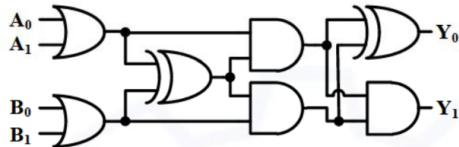

Fig. 4.19
37. In the circuit shown below in Fig. 4.19, Y is a 2-bit (Y_1Y_0) output of the combinational logic. What is the maximum value of Y for any given digital inputs, A_1A_0 and B_1B_0 ? (GATE BM 2021)